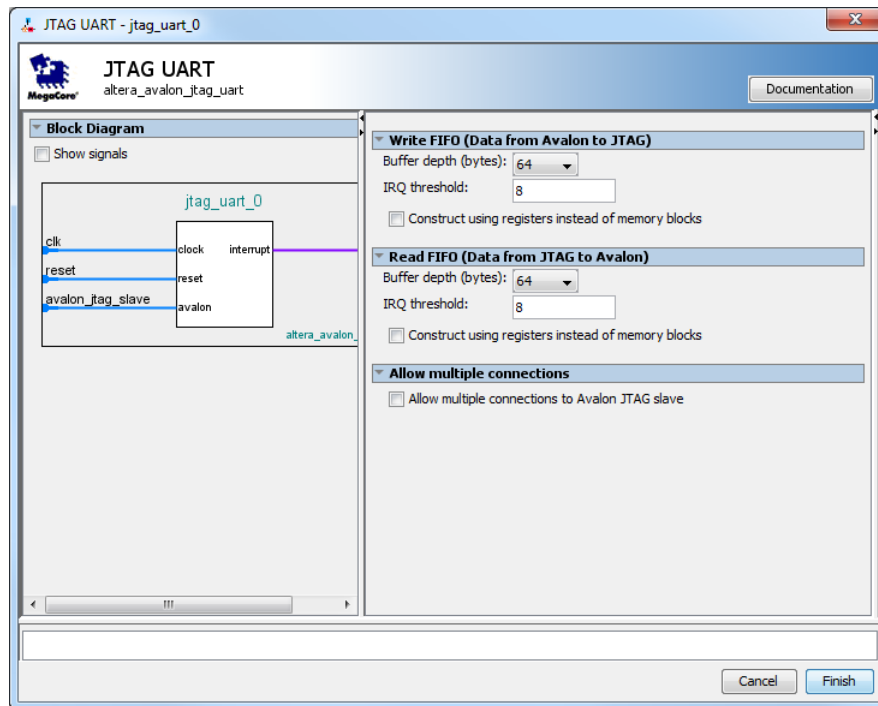

Figure 14. Define the JTAG UART interface.
- Select Interface Protocols > Serial > JTAG UART and click Add to reach the JTAG UART Configuration Wizard in Figure 14